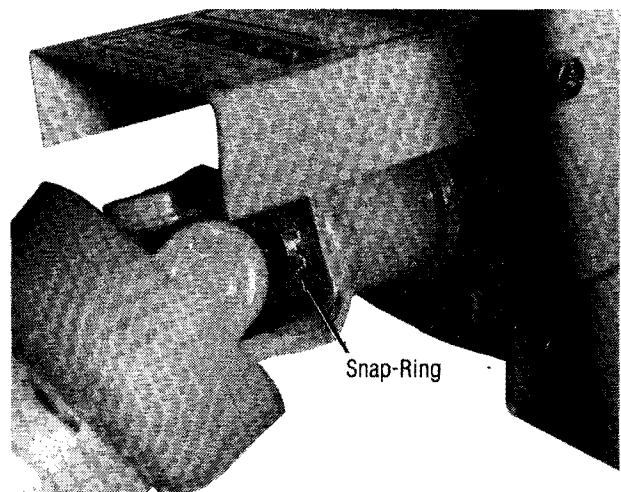

Figure 1 Snap Ring Location
5. Install PTO Driveshaft using 1/4" X 1" square key in gearbox shaft. Be certain to install snap ring as shown in Fig. 1.